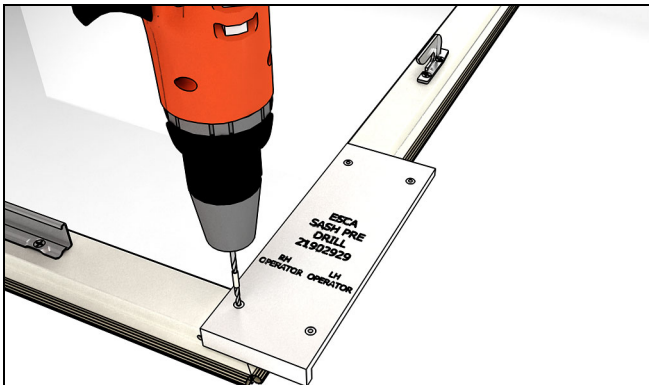
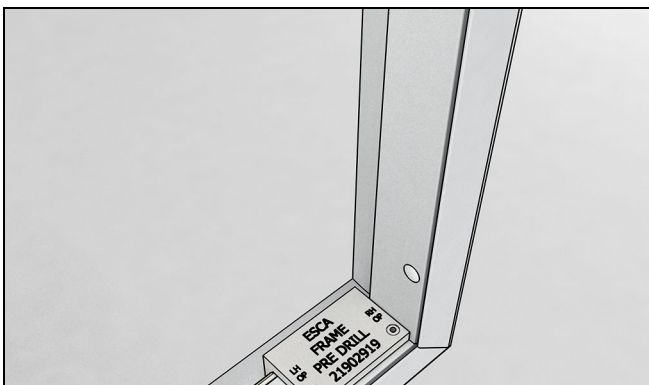

Figure 4 Firmly hold sash jig on corner of sash.
Figure 5 Tape drill bit 3/4" from end.
10. As shown in Figure 4, hold the sash jig on the lower, locking-side corner of the sash and drill two 7/64" holes. Tape the drill bit 3/4" from the end as shown in Figure 5. Drill to a depth in which the tape slightly contacts the sash jig.